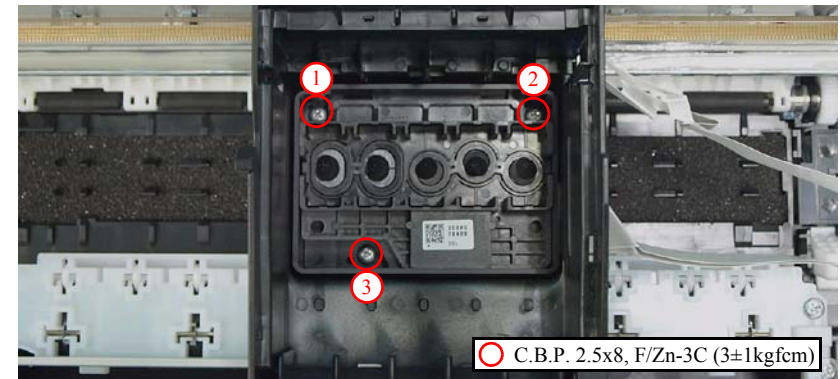

Figure 4-35. Removing Printhead (3)
- Tighten the screws in the order given in Figure 4-35.